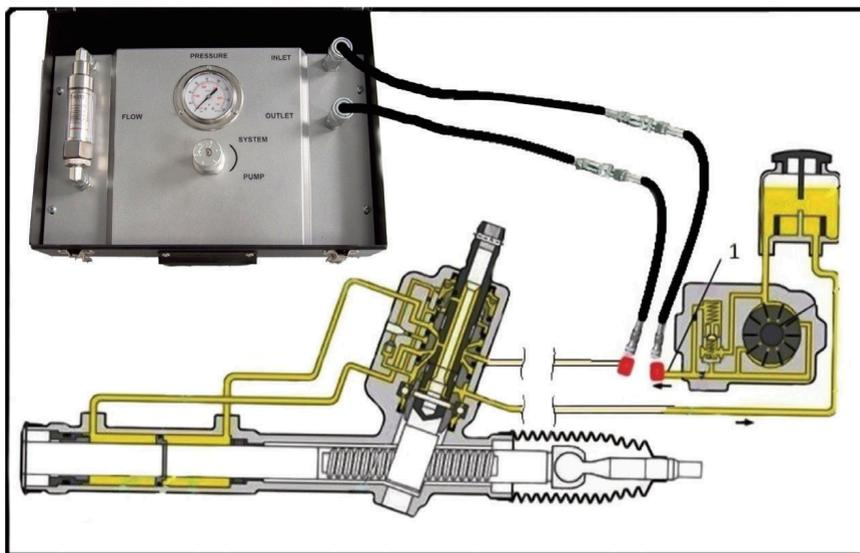

Figure 2: Connection of the tester to the power steering system:
1. Connect the tester to the power steering system in series between the power steering pump and the steering rack as shown in Figure 2: